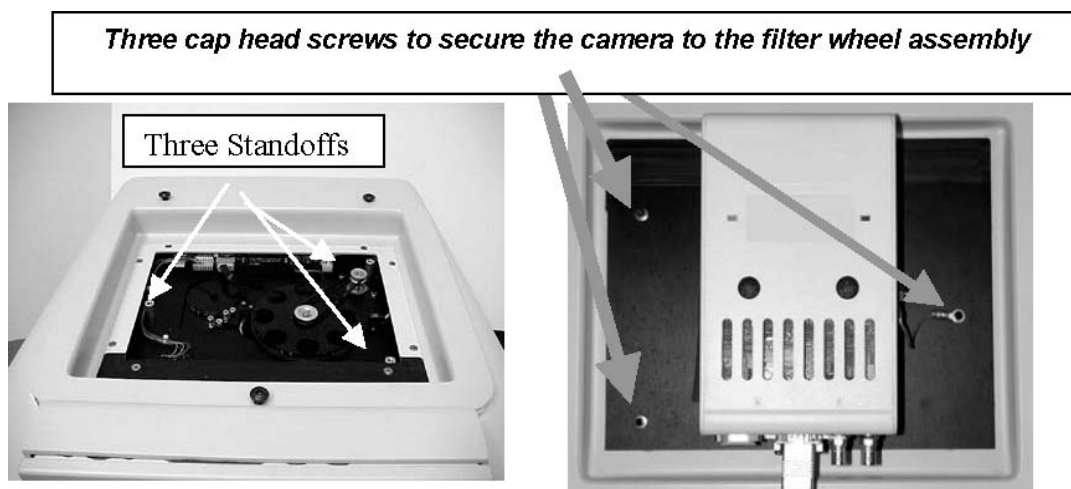

Figure 3.1.
3. Using the 3 cap-head screws and the 9/64" hex key (included in camera box), secure the camera adapter plate to the standoffs. Carefully tighten the screws evenly to form proper light seal. See figure 3.1 for details.
2. Couple the VersaDoc 5000 and MP5000 camera module to the enclosure as shown in the section 3.2.3 above. See Figure 3.1 for details.